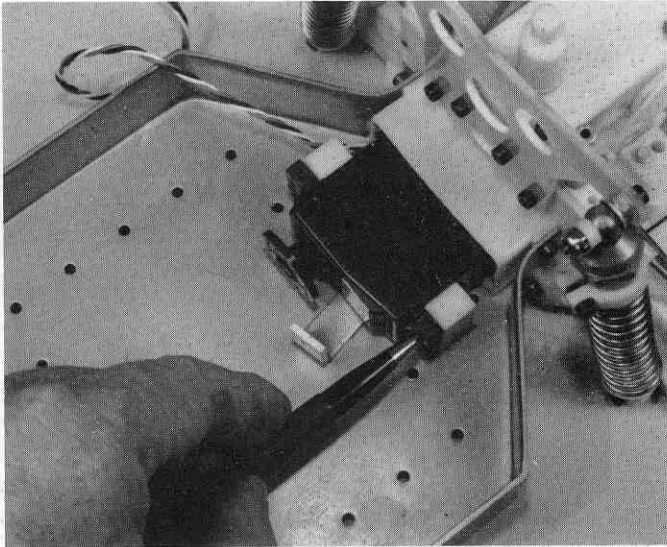

Fig. 131
□ **Fig. 131** Drop in the servo and space it off the chassis using the #6711 resistor flat mounting bar (from bag #6-13). Be careful not to damage the servo wires, they can be snug in the bulkhead. Mark the servo mounts with a pencil or fine point marking pen. Remove the servo mounts from the chassis then drill and install the mounts as per instructions in fig. 124. **NOTE:** Make sure the servo is turned so that the output shaft is on the correct side (left side of photo).